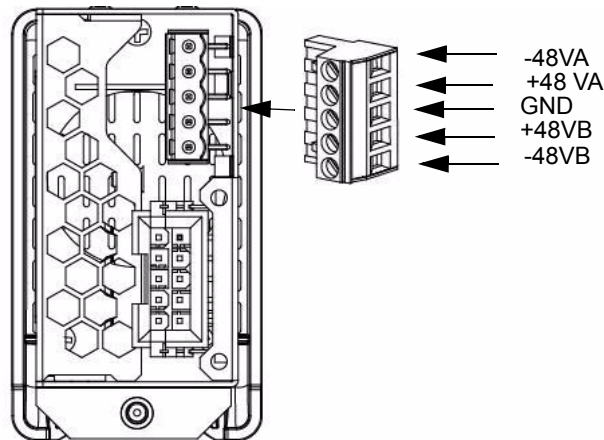

Figure 3-2: DC power plug
1. Connect the primary –48 VDC power source to the –48V A terminal and return terminal (+48VA) on the DC terminal block on the rear of the CPS 4800-DC module, shown in Figure 3-2 on page 13
- If redundancy is needed, connect the secondary -48 VDC power source to the -48 V B terminal and return terminal (+48 VB). See the DC power plug (part number 406-0000636) in Figure 3-2 on page 13.